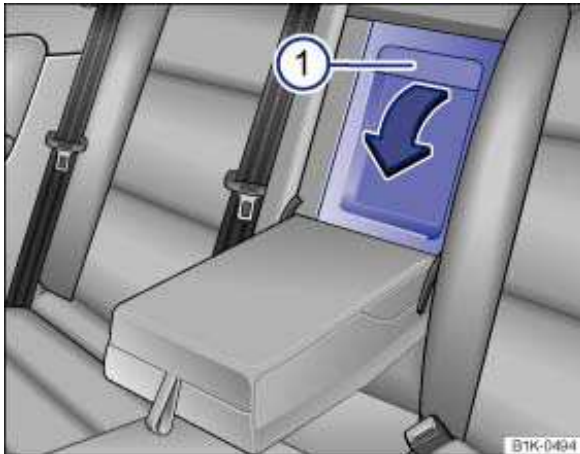

Fig. 102 In the rear seat backrest: Opening the luggage compartment pass-through.
- Pull the release lever ⇒ fig. 102 \(1\) and fold the pass-through cover all the way forward.